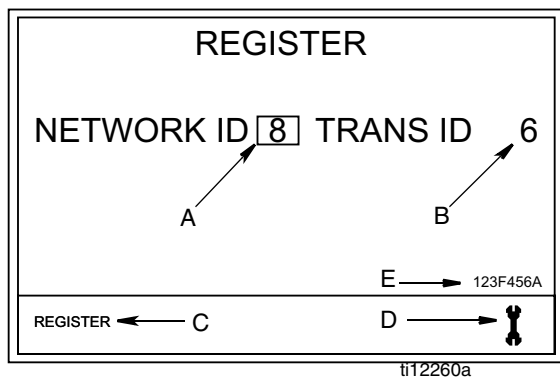

FIG. 5
4. Press the center ENTER button on meter's keypad to select the REGISTER option. The Register Screen shown in FIG. 5 displays.
1. The screen displays the NETWORK ID (A) and TRANS(ceiver) ID (B) (FIG. 5) currently assigned to the meter.
2. If the ID's in both fields are correct and you do not need to make any changes, use LEFT or RIGHT ARROWS to move cursor over REGISTER (C). Press center ENTER button on meter's keypad. The meter resets to it's initial screen.